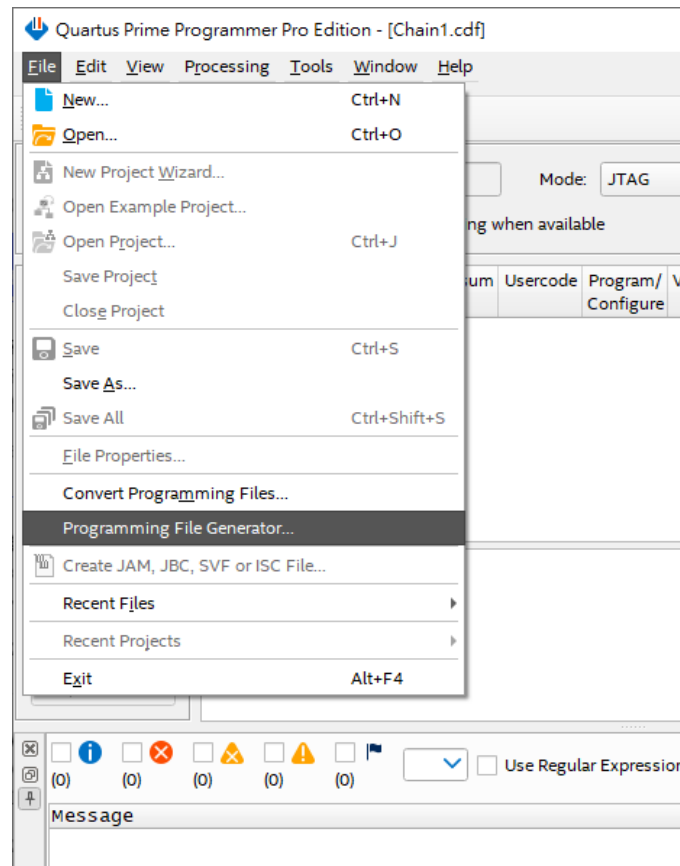

Figure 5-5 Open the Programming File Generator
1. Open the Quartus Prime Programmer and select **File** → **Programming File Generator...** (see **Figure 5-5**).